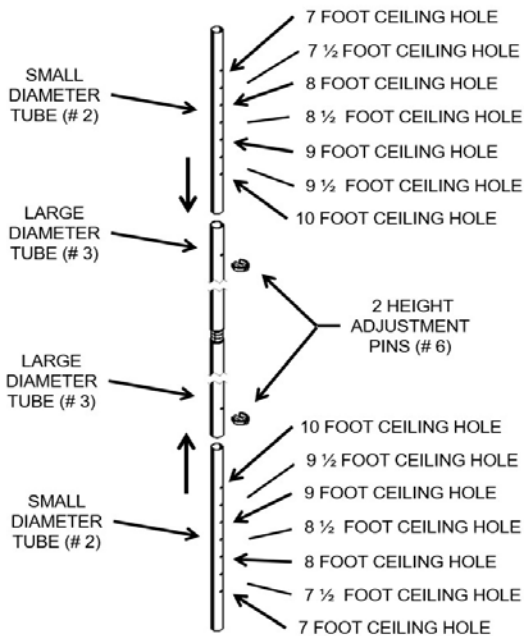

FIGURE 4
5. Insert the SMALL DIAMETER TUBES (#2) into the LARGE DIAMETER TUBES (#3) as shown in Figure 4. Align the appropriate ceiling height hole in the SMALL DIAMETER TUBE with the hole in the LARGE DIAMETER TUBE (#3) and insert the HEIGHT ADJUSTMENT PINS (#6) through the aligned holes.
- b) Figure 4 identifies 7, 8, 9, and 10-foot ceiling height holes with arrows. The holes located in-between the arrows should be used for ceiling heights that are close to 7-1/2, 8-1/2, and 9-1/2 ceiling heights. Pole can be adjusted +/- 3 inches with the Threaded Adjustment Assembly (#4)